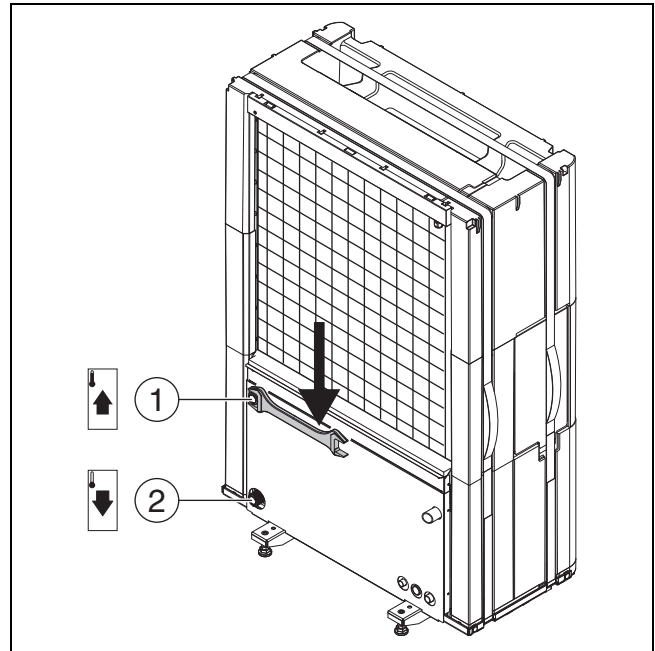

Fig. 18 Connections of heat-carrying medium pipes, valid for all sizes
- ▶ Connect flow to the indoor unit at the heat transfer medium outlet of the heat pump (→ [1], Fig. 18).
- ▶ Connect return from the indoor unit at the heat transfer medium inlet of the heat pump (→ [2], Fig. 18).
- ▶ Tighten connections of the heat transfer medium pipes with a starting torque of 120 Nm. Direct the force downwards (→ Fig. 18) to avoid lateral loading of the condenser. If the connection does not seal properly, the joint can be tightened with a starting torque of up to 150 Nm. If the connection is still not tight, this indicates that the gasket or connected pipe is damaged.